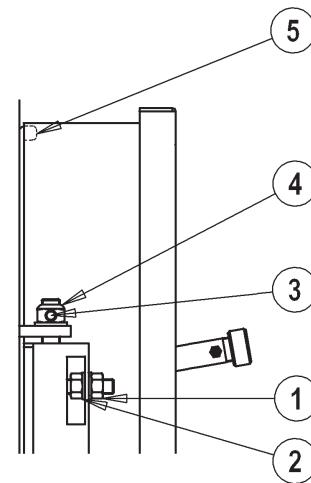

fig. 9
5.6.1 Para modelos PREXTERM RSW 92N+600N (Fig. 9)